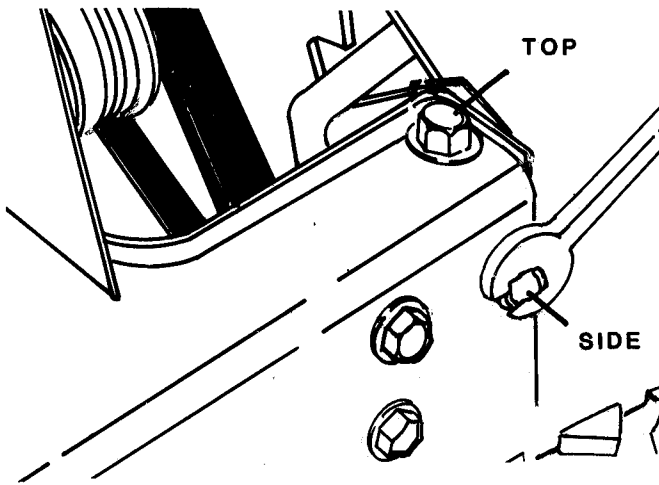
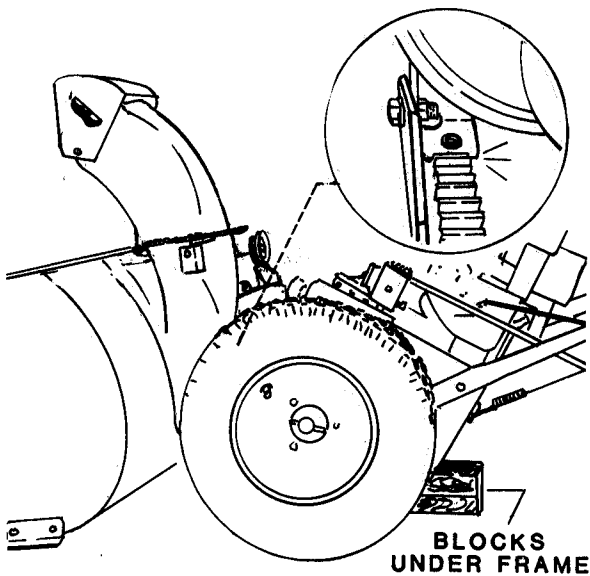

FIGURE 3.5 — REMOVING FRAME BOLTS
FIGURE 3.6 — TRACTION AND BLOWER UNITS SPLIT
STEP 4. Loosen the bolts on the bottom tabs and remove the bolts from the top and sides of the frame (figure 3.5). **CAUTION:** Traction unit will fall away when the last bolt is removed unless held up. The power or traction unit can now be lowered away from the collector unit. **NOTE:** When splitting these units, do not allow the handles to fall all the way to the floor as the tabs on the left side of the frame could bite into and damage the traction drive gear. Lower the handles only about half way down to prevent this (figure 3.6).